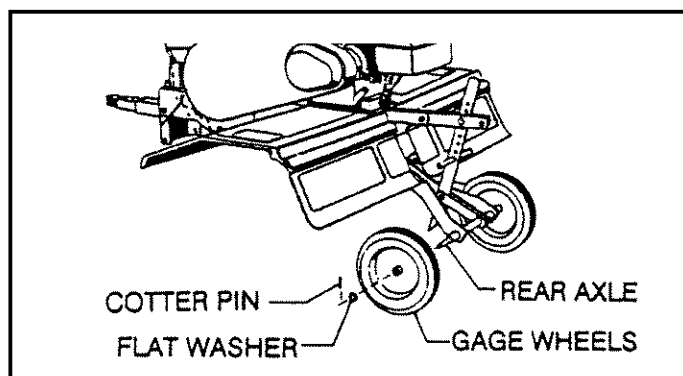

**FIG. 1**
- Cut from top to bottom all four corners of the carton and lay panels flat. (See Fig. 1)